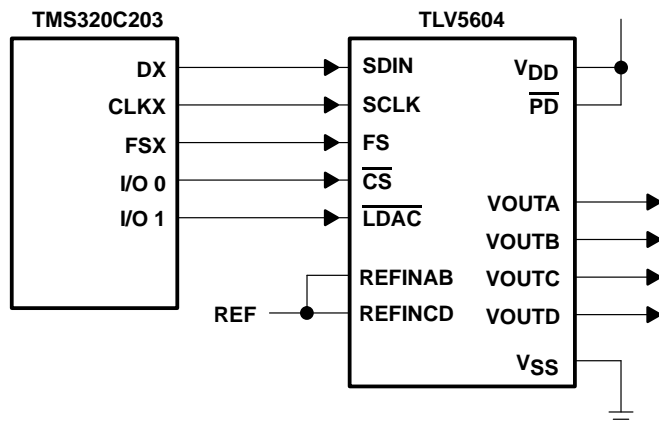

Figure 17. TLV5604 Interfaced with TMS320C203
Figure 17 shows an example of how to connect the TLV5604 to a TMS320C203 DSP. The serial port is configured in burst mode, with FSX generated by the TMS320C203 to provide the Frame Sync (FS) input to the TLV5604. Data is transmitted on the DX line, with the serial clock input on the CLKX line. The general-purpose input/output port bits IO0 and IO1 are used to generate the Chip Select (\overline{CS}) and DAC Latch Update (\overline{LDAC}) inputs to the TLV5604. The active low Power Down (\overline{PD}) is pulled high all the time to ensure the DACs are enabled.